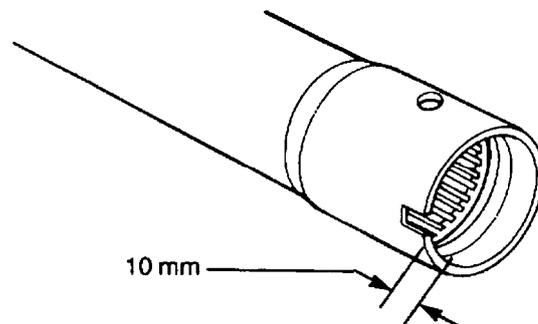

Figure 91 Upper Column Bearing Installation
- b. Press in a new needle roller bearing to the top of the steering column ensuring that a gap of 10 mm (0.39 in) is obtained from the bearing to the end of the column (Figure 91).